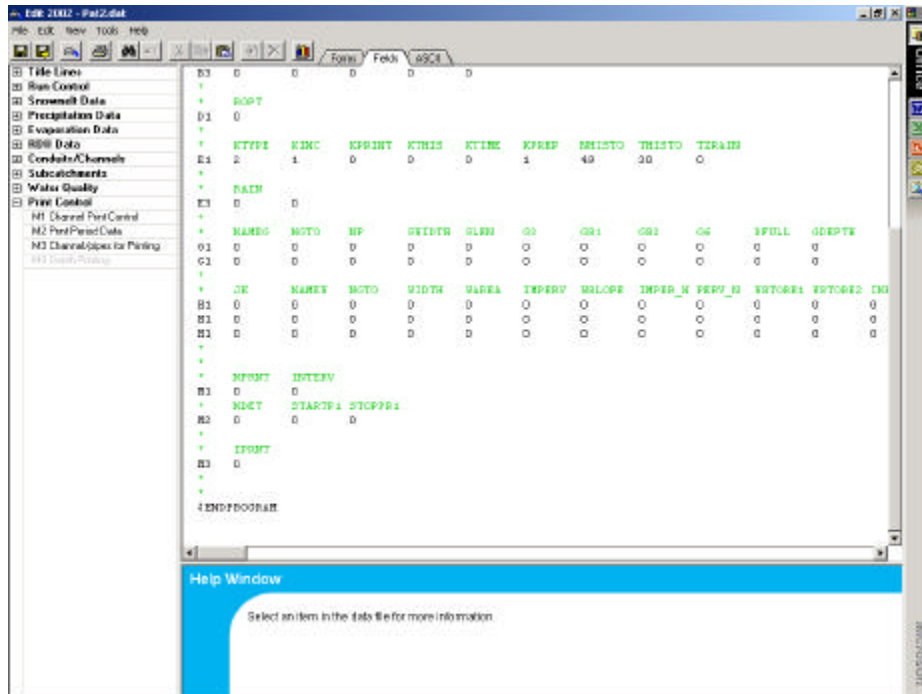

Figure 10
Insert a D1 line, include the comments. Enter the ROPT option as zero (the precipitation data will be entered using E lines). Insert an E1 line. This line describes the format of the precipitation file. Select “Precipitation and Time in Columns” (KTYPE = 2). This will let you enter the precipitation in pairs (time and corresponding precipitation depth). The number of time / precipitation events per line is one (KINC = 1). Have the model print all of the rainfall data (KPRINT = 0). The interval time for each record in the hydrograph is constant (KTHIS = 0). The units for time in the hydrograph is minutes (KTIME = 0) and each record presents the precipitation in inches (KPREP = 1). There will be 49 sets of paired rain data (NHISTO = 49), and the time interval between the values will be 30 minutes (THISTO = 30). Finally, the simulation will start at midnight, or 0 hours (TZRAIN = 0). (see Figure 10)
In this example there are two conduits and three subcatchment. Insert two (2) copies of G1 lines for the conduits and three (3) H1 lines for the subcatchments. Don't include any values after the lines are inserted (see Figure 10). All the information about Conduits and Watersheds will be created with the GIS module.
To finish the manual data entry, indicate the information required in the report. Create the blocks M1, M2 and M3 from the print control Menu (see Figure 10). The line M1 indicates the nodes in channels, pipes or inlets for which flow will be printed in the output file. The print interval will be the same time step (in this case it will be one). The line M2 indicates the period that will be printed. If STARTP and STOPPR are zero and NDET is one, all the time periods will be printed. That option is required in this example. The M3 line will be included after using the GIS module. SAVE THE FILE WITHOUT RUN (the far left “diskette” icon on the top tool bar). Don't close the window.